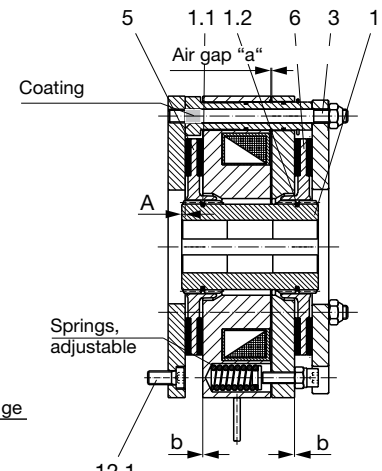

Fig. 12
- ❑ Dimension “A” (Fig. 12) must be kept to.
1. Mount the gear hub assembly (1) onto the shaft according to Fig. 12, **please observe dimension “A” according to Fig. 12; please observe the entire carrying length of the key, and secure axially** (e.g. using a locking ring).
2. If necessary, mount the flange plate (12) using the cap screws (12.1) (please observe the tightening torque).
3. Using light pressures, push rotor 1 (5) by hand over the O-rings (1.1 and 1.2) onto the gear hub (1) (Rotor collar faces away from machine wall or flange plate). Please make sure that the toothing runs smoothly. Do not damage the O-rings.
4. Manually screw in the double end studs (3) **with coating thread-side** until reaching the coating (screw-in limitation) in the threaded holes of the brake screw-on surface (machine wall) or on the flange plate, screw in by hand up to its limit (secure with LOCTITE 243).
5. Push brake body (2) over double end studs (3).
6. Manually push rotor 2 (6) onto the gear hub (1) (over O-ring (1.2)) (Rotor collar faces away from machine wall or flange plate). Please make sure that the toothing runs smoothly. Do not damage the O-rings.
7. Push brake plate (16) over double end studs (3).
8. Screw on brake evenly all around using the hexagon head nut (4). (**Tighten hexagon nuts with a torque wrench**). **Observe tightening torque.**